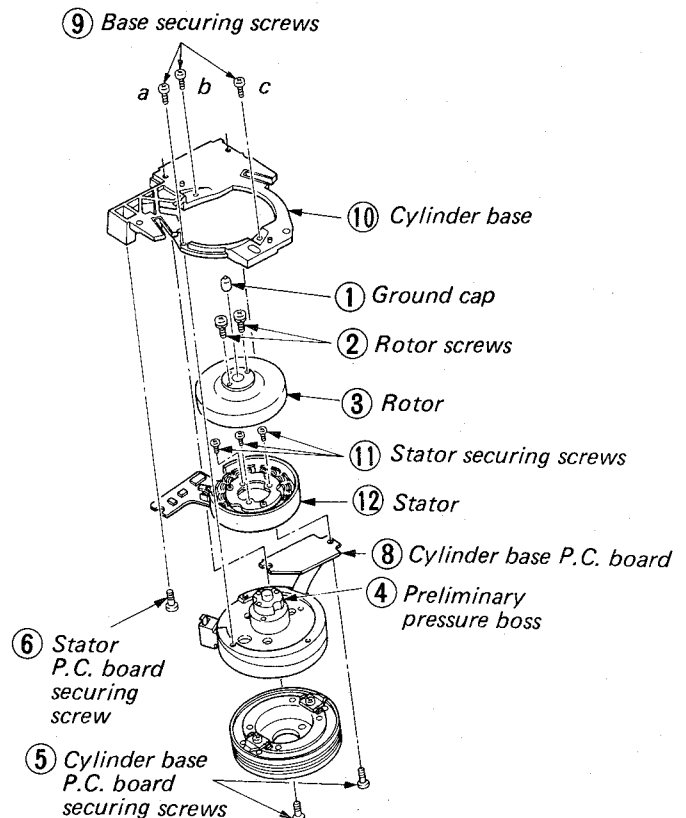

Fig. 1-3-14 Cylinder motor replacement
(Fig. 1-3-14, 15)
- 3) Remove three base securing screws ⑨ and remove the cylinder base ⑩ (Fig. 1-3-14).
- 4) Remove the rotor screws ② and the rotor ③. (Fig. 1-3-14)
- 5) Remove the stator securing screws ⑪.
- 6) Pull out the stator ⑫ and replace it. (Tightening torque 1.5 – 2.5 kg)
Note: Sequence of tightening base securing screws ⑨ : tighten the screw a first, b and c in any order. (tightening torque is 3 – 4 kg-cm) (Fig. 1-3-14)